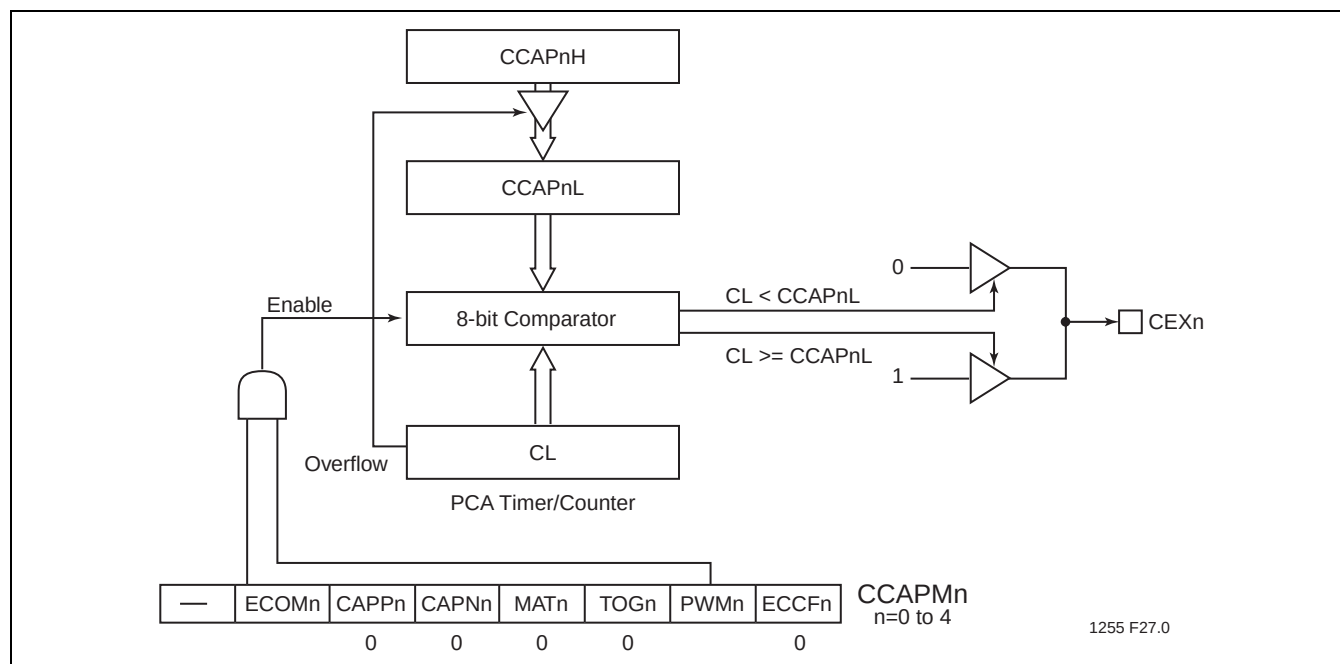

**FIGURE 8-5: PCA PULSE WIDTH MODULATOR MODE**
The Pulse Width Modulator (PWM) mode is used to generate 8-bit PWMs by comparing the low byte of the PCA timer (CL) with the low byte of the compare register (CCAPnL). When  $CL < CCAPnL$  the output is low. When  $CL \geq CCAPnL$  the output is high. To activate this mode, the user must set the PWM and ECOM bits in the module's CCAPMn SFR. (See Figure 8-5 and Table 8-7)